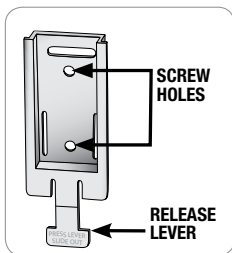

Fig. 15 - 8208 Chair/Wall Bracket (Front View)
2. Use Wall Bracket (Cat. 8208) (Fig. 15).
- Position wall bracket with back (flat side) against wall (Fig. 15).